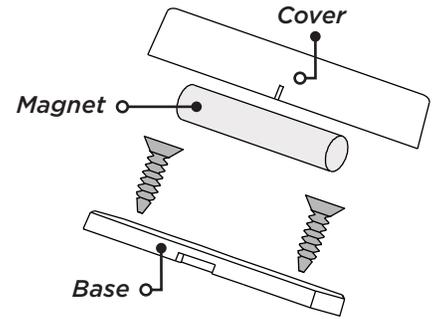

Figure 4: Standard Magnet Assembly
3. Snap the magnet into the magnet assembly cover, then snap the cover onto the base. See Figure 4.